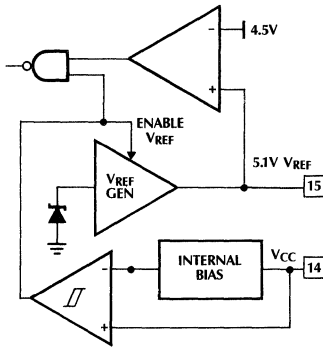

Figure 10. Under-Voltage Lockout Circuit
When the current (sensed on pin 9) reaches the 1.5V limit, the PWM cycle is terminated. The flip flop (figure 10) turns on current source I(1) to charge C_{RST} and remains on until CLOCK goes high. The magnitude of current source I(1) is $.25 \times I_{SET}$ where I_{SET} is the oscillator charging current. When C_{RST} has charged to 2.3V, a soft start reset occurs. The number of times the PWM cycle is terminated due to over-current is "remembered" on C(RST). Over time, C(RST) is discharged by R(RST) providing a measure of "forgetting" when the over-current condition no longer occurs.